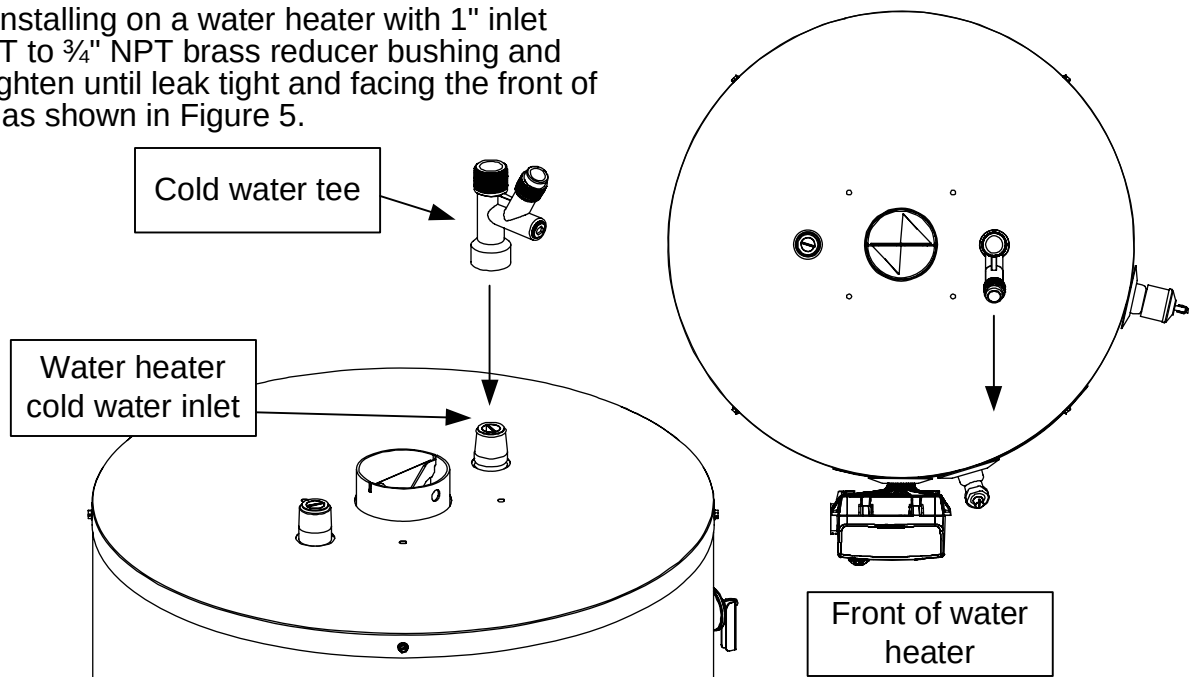

Figure 5
2. Install the cold water tee onto the cold water inlet of the water heater. If installing on a water heater with 1" inlet fitting, use 1" NPT to ¾" NPT brass reducer bushing and brass nipples. Tighten until leak tight and facing the front of the water heater as shown in Figure 5.